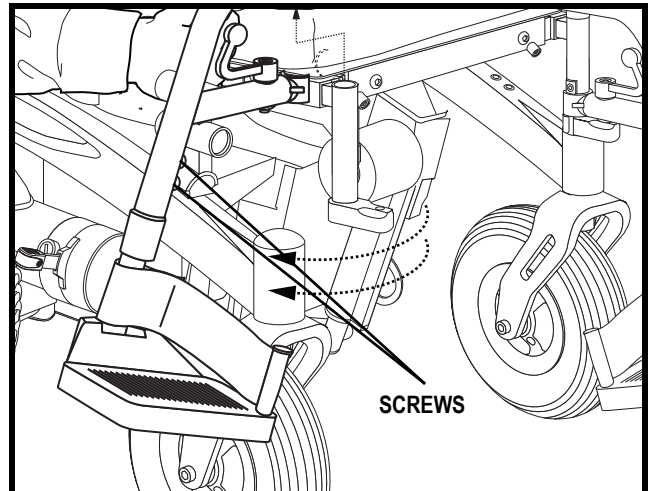

Figure 19. Swing-away Adjustment
1. Remove the screws from the SFR. See **figure 19**.